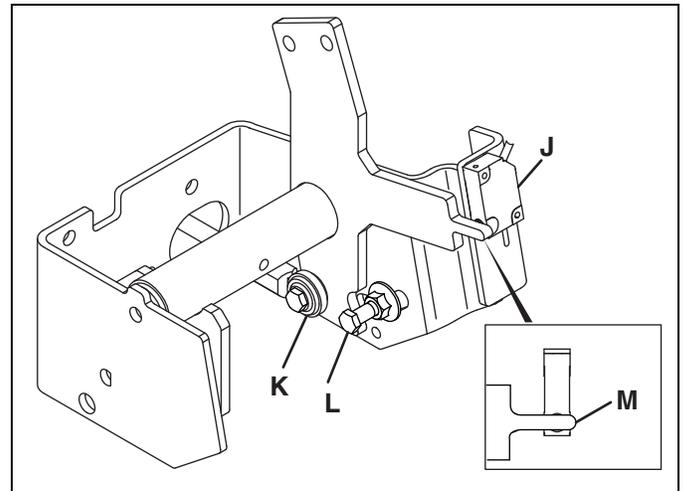

Figure 3E
3. Check that tow valve (H) is closed
4. Engage parking brake and set mow switch to Neutral. Make sure Neutral switch at traction pedal is closed. (Figure 3E - M). Distance between the sensing portion of switch and metal pointer (M) must be between 1/16 and 1/8 in. (1.5 and 3 mm).
5. Loosen screws (G) holding pump lever bracket just enough so it can be moved. Start engine, disengage parking brake, and observe wheels. Adjust bracket (F) in slotted holes until wheels do not turn. Turn off engine and tighten bracket in place.
bracket is centered over Neutral switch (M -Figure 3E).